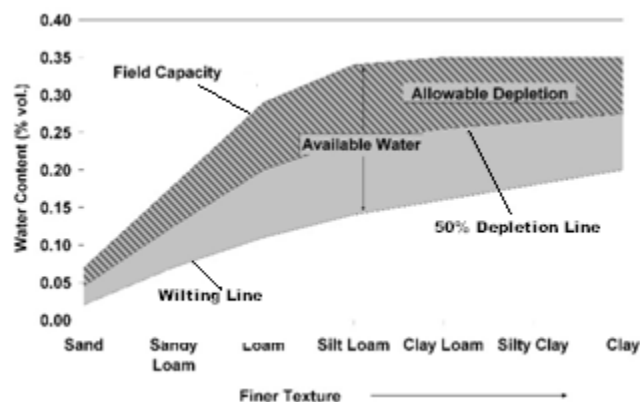

Figure 2. The amount of allowable depletion, or the readily available water, represents about 50 percent of the total available water.
- o Allowable Depletion (readily available) is the point where plants begin to experience drought stress. Depending on soil type, the amount of allowable depletion for melons is about 50% of the total available water in the soil. (Figure 2.)